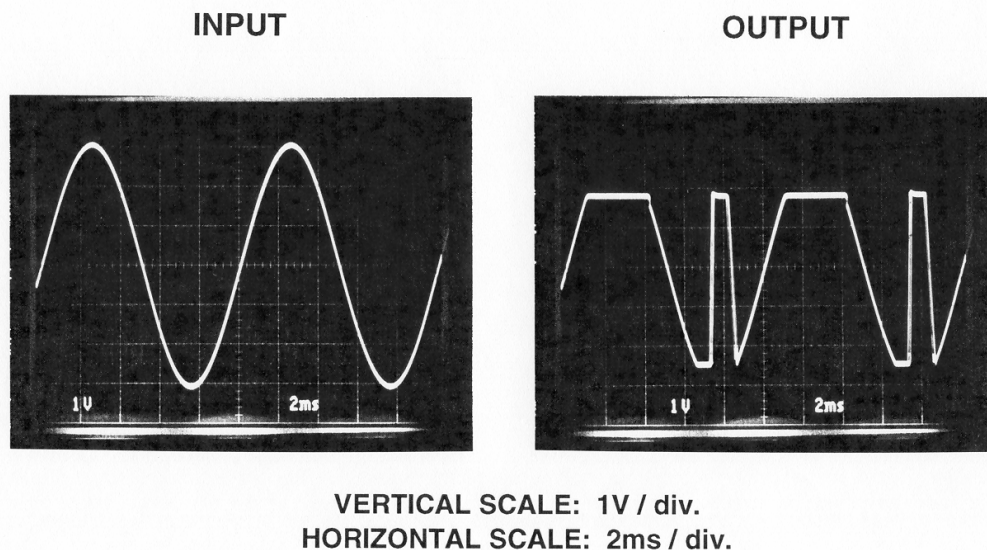

Figure 1: Output Voltage Phase-Reversal in a Voltage Follower
Output voltage phase-reversal is a problem that occurs in some op amps when the input common-mode (CM) voltage is exceeded. It is usually caused when one of the internal stages of the op amp no longer has sufficient bias voltage across it and subsequently turns off. This causes the output voltage to swing to the opposite rail until the input comes back within the common-mode range, as shown in Figure 1 for a voltage follower. Note that the inputs may still be well within the supply voltage rails, but simply above or below one of the specified CM limits. Typically, this is towards the negative range, and phase-reversal is most often associated with JFET and/or BiFET amplifiers, but some bipolar single-supply amplifiers are also susceptible to it.